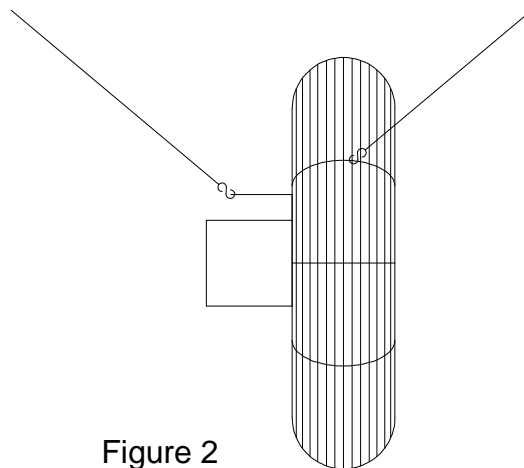

Figure 2
**For BK fans:** Attach two of the “S” hooks to the basket guard. Insert the other two hooks into the pre-punched holes on the motor bracket. See Figure 2.